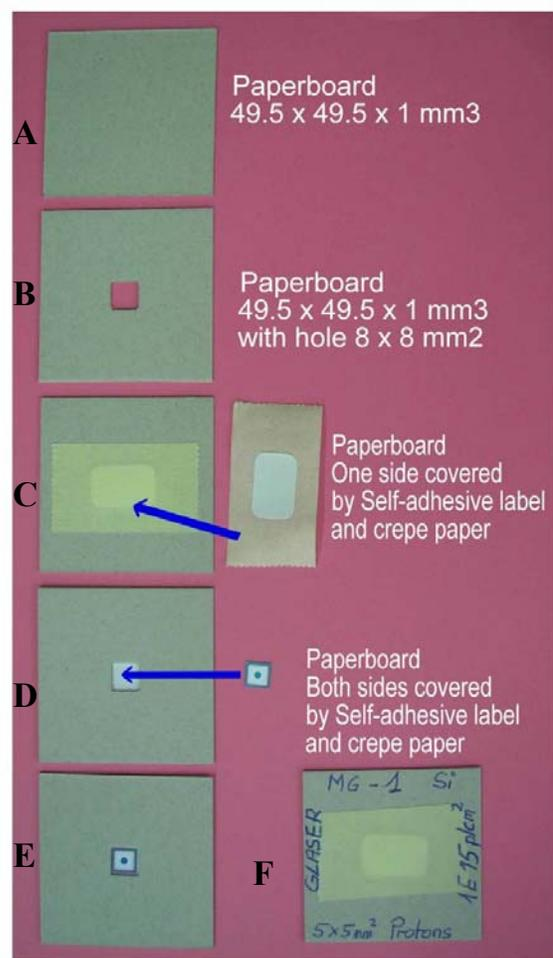

Figure 1.: Packaging of small samples for irradiation.
1. Prepare a square paperboard holder having the following dimensions ($49.5 \pm 0.5 \times 49.5 \pm 0.5$) mm² and a thickness of 1 mm (see Fig. 1 A)
2. Cut a square hole into the center of the paperboard having dimensions according to the size of your sample. For samples having a dimension of 10x10 mm, the hole has to be 11x11 mm. (Fig. 1 B)
3. Fig. 1 C shows the further preparation of the paperboard. Use a scotch tape (*CERN SCEM: 04.95.45.A - INDUSTRIAL TAPES, SELF-ADHESIVE CREPE PAPER - LOW ADHERENCE*) with a small self-adhesive label on it to protect the sample. For proton fluences higher than 10^{15} p/cm² a Kapton tape (*CERN SCEM: 04.94.70 - SELF-ADHESIVE TAPES FOR ELECTRONICS - KAPTON*) has to be used.
4. Put one or two samples into the board and close the second side like the first side (Fig 1 E)
5. **Label the cardboard properly!** The following information has to be written in clear writing on the paperboard (see Fig 1 F):